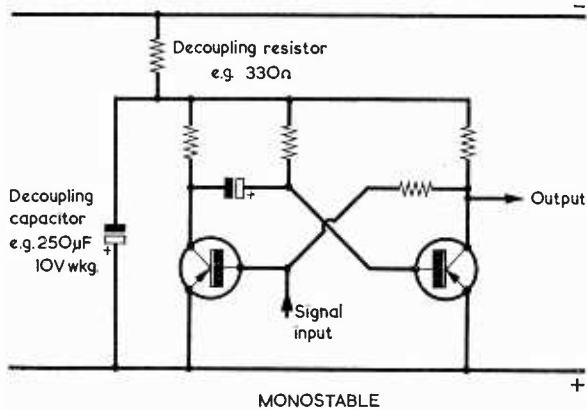

Fig. 5. If necessary, power supply decoupling may be added to individual monostable stages, as shown here
3. Failing all this, the only other alternative lies in decoupling the monostable from the power supply line, as in Fig. 5. This would have to be done to each offending monostable separately.